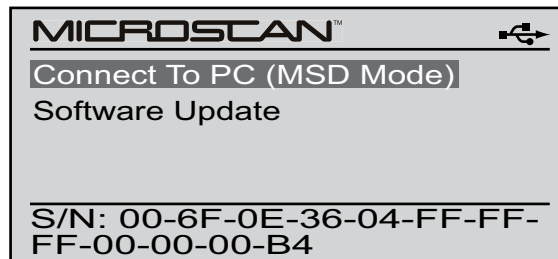

Figure 5-6 Connect to PC screen
2. Select **Connect to PC** from the menu (Figure 5-6), then press **Y** to make the selection.